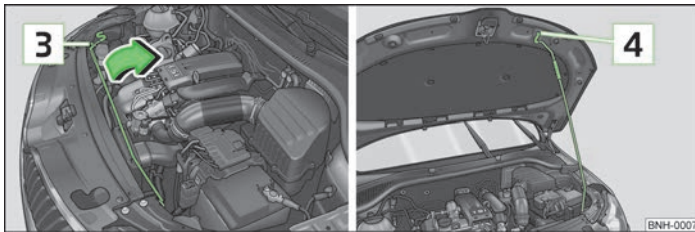

Fig. 97 Securing the bonnet
- Take the bonnet support out of its holder in the direction of the arrow » Fig. 97 and secure the opened bonnet by inserting the end of the support into the opening in the bonnet.